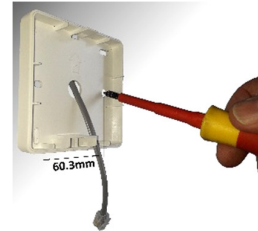

Fig 8
**Step 2** Feed one end of the RJ control cable through the switch box, feed and secure the RJ control cable through the back case and secure back case to switch box using 2 mounting screws (not supplied) (see Fig 8).